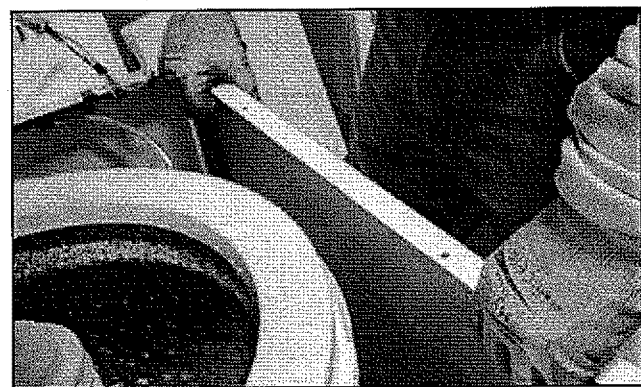

FIGURE 6
7. Lift front panel straight up to remove. See *Figure 6*.